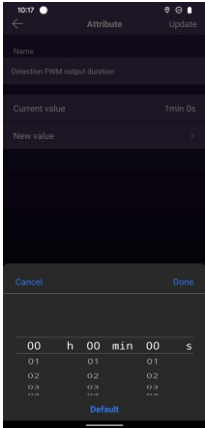

Figure 16
9. The attribute “**Detection PWM output duration**” is to **set the hold time of the configured PWM output of the 0-10V dimming when motion is detected**. Tap it to enter setting interface, “**Current value**” means current hold time, “**New value**” is to set a new hold time, factory default hold time is 1 minute. Once set a new value, tap “**Update**” button at upper right corner to save the setting (as shown in **Figure 16**).